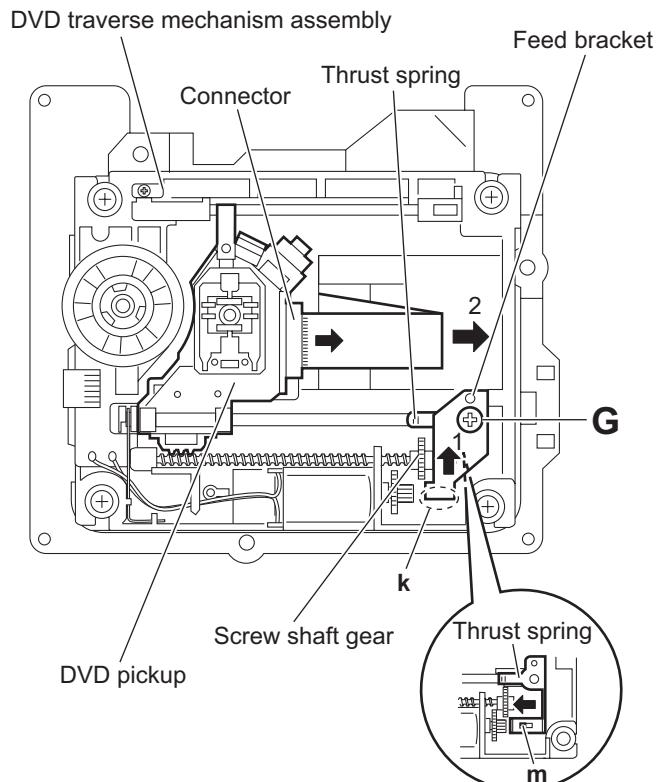

Fig.12
(See Figs.12 to 14)
- (1) From the top side of the DVD traverse mechanism assembly, release the lock of the connector on the DVD pickup and disconnect the card wire in the direction of the arrow. (See Fig.12.)
- (2) Turn the screw shaft gear in the direction of the arrow 1 to move the DVD pickup in the direction of the arrow 2. (See Fig.12.)
- (3) Remove the screw **G** attaching the feed bracket and remove the feed bracket from the sections **k**. (See Fig.12.)
- (4) Release the claw **m** of the thrust spring in the direction of the arrow and remove the thrust spring. (See Fig.12.)
- (3) Attach the thrust spring and feed bracket with the screw **G**. (See Fig.12.)